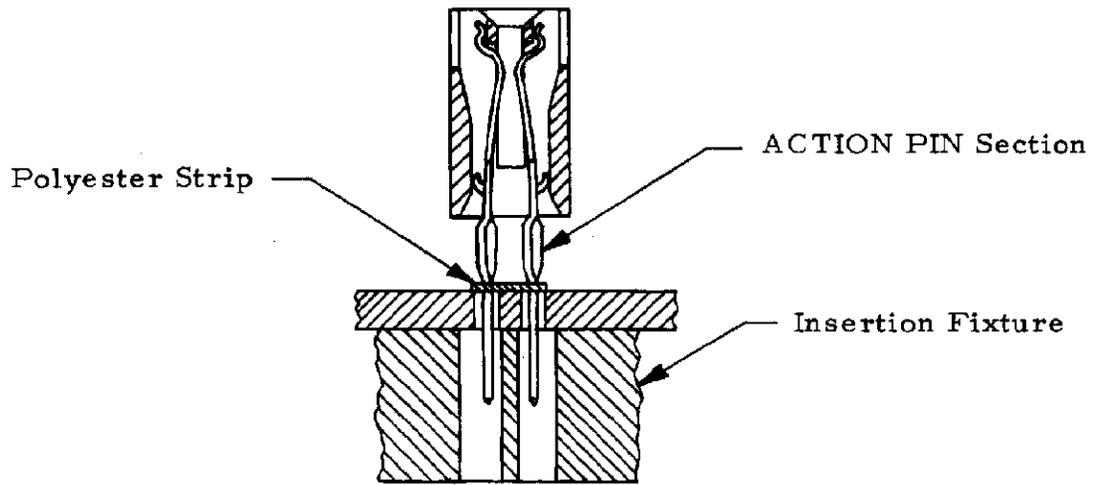

Figure 3
- C. Evenly press connector into printed circuit board, using care not to bend any posts, until polyester strip bottoms on ACTION PIN\* section of contacts as indicated in Figure 3.